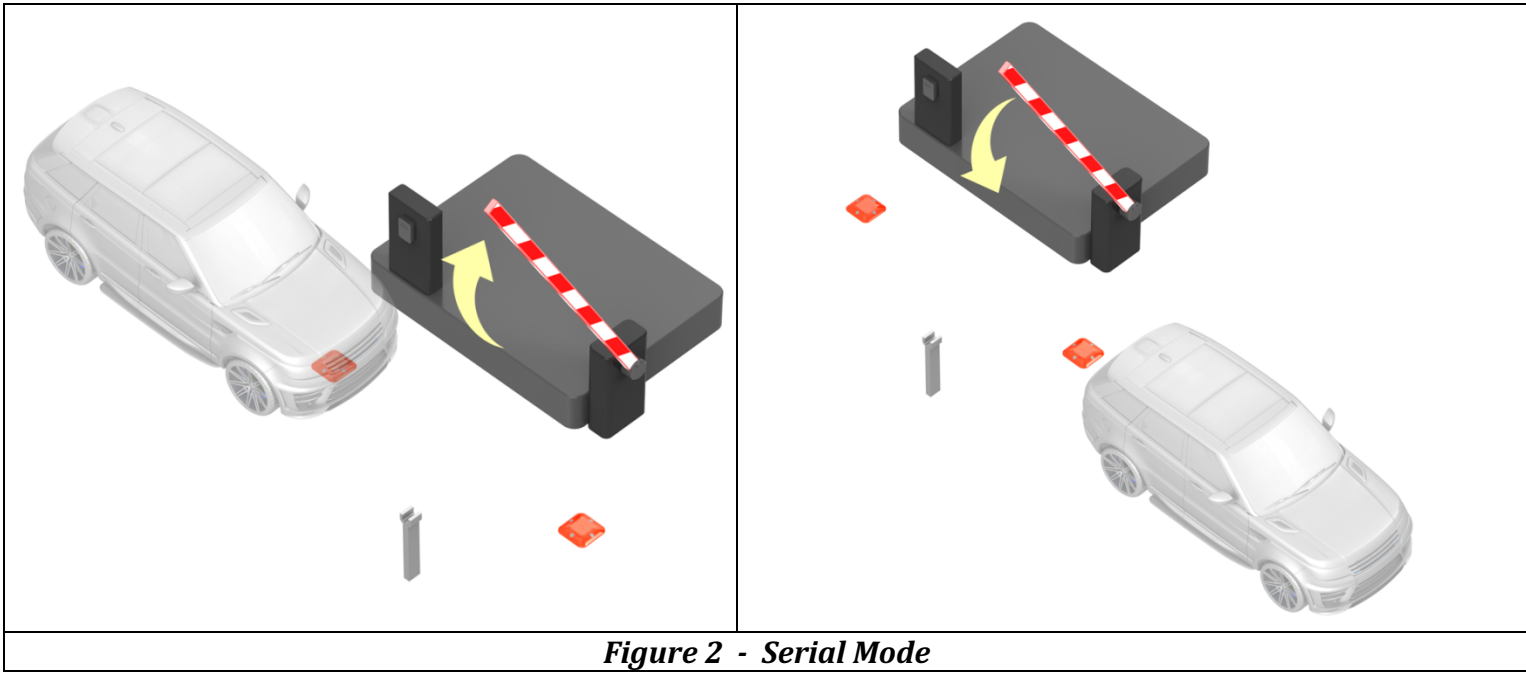

Figure 2 - Serial Mode
This menu is used to teach a sensor (TS) to the control card (TC). Firstly, a way is selected and maximum of 2 transmitter sensors can be registered on this way. A total of 8 sensors can be taught in 4 different ways. To activate the learning mode of the control card, first a way is selected, for example **WAY1**, then the sensor is selected (**SENSOR1/OPEN**) and when the control card enters the learning mode; the buzzer on the card will beep for 15 seconds and “**SENSOR DATA WAIT**” will appear on the screen. During this period, if you want to save the sensor as **SENSOR1** to the receiver for the first time, press and release the button on the TS card once. If you have previously taught the sensor to a receiver, this time you need to approach a metal object to the sensor and pull the metal object over it. The sensor will send learning data and when the control card learns this sensor, the buzzer will beep 3-4 times quickly (on/off). This will complete the registration process. You can then continue the process by registering as many sensors as you need. For example, user who wants to use the system in serial mode (Figure 2) by using a second transmitter sensor to be placed on the same way must select **WAY1** again and this time register in the **SENSOR2/CLOSE** section. Thus, the user will be able to use the product in serial mode. However, in the same learning system, user who wants to operate one transmitter sensor at the entrance and the other at the exit (Figure 1) will select **WAY2** after **WAY1** and select **SENSOR3/OPEN** and complete the same teaching process here as well. In this way, a single control card (TC) will be able to control both entrance and exit.
In normal mode, there is only one sensor in the same road, while in serial mode there are two sensors on the road. **Figure 1** shows the normal mode, and **Figure 2** shows the sensor placement in serial mode.